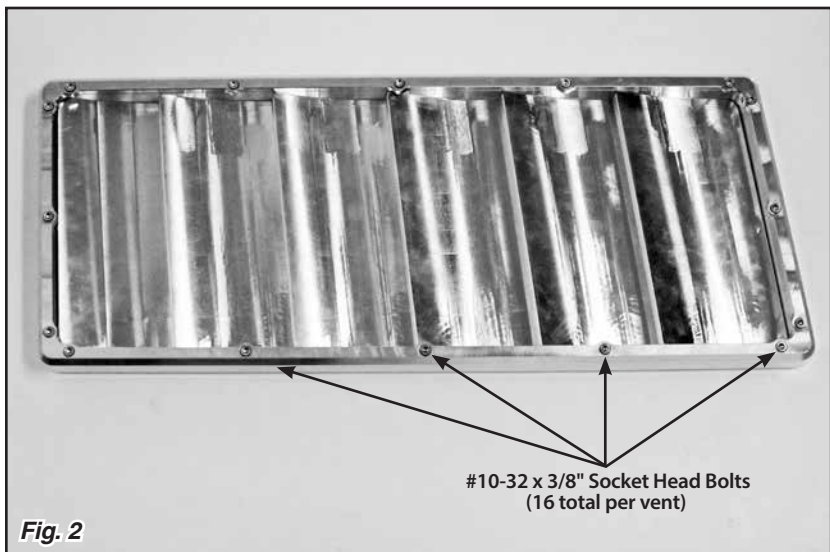
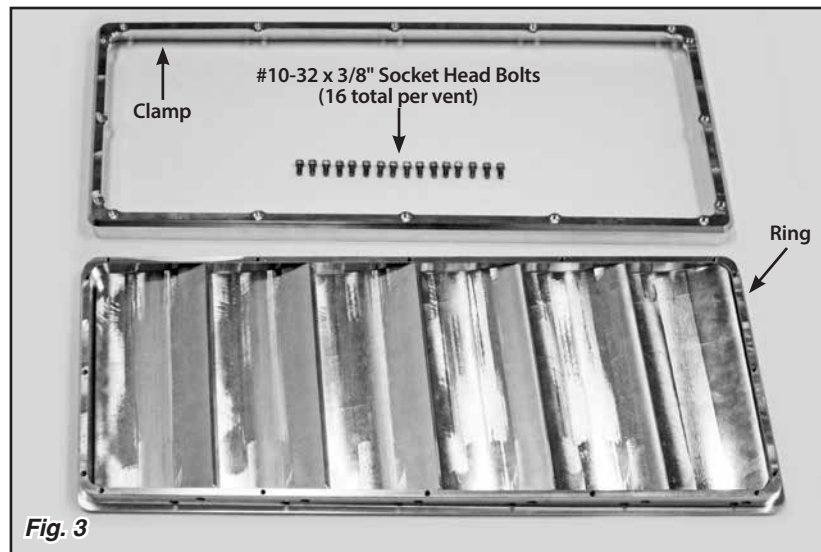

Fig. 2
Fig. 3
Step 1: Lay the hood vent upside down on a workbench. Remove the #10-32 x 3/8" socket head bolts (16 per vent) around the clamp using a 5/32" Allen wrench. **Fig. 2** Separate the clamp from the ring by lifting up on two opposite corners of the clamp. **Fig. 3**